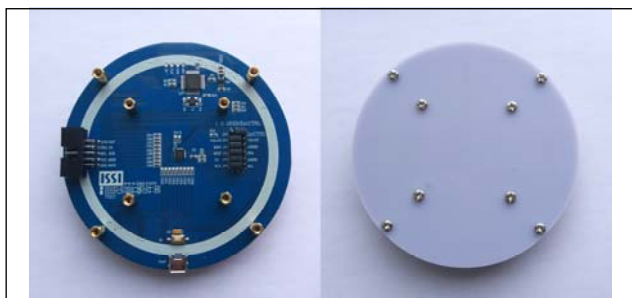

Figure 1: Photo of IS31FL3746B Evaluation Board
**Note 1:** The value of these resistors on the evaluation board is 20Ω. For PVCC=5V and red LED application, prefer 51Ω for these resistors as shown in datasheet Figure 1.